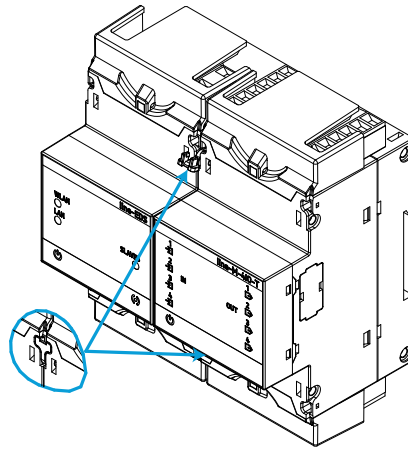

Figure 10: Installation step 3.
3.- Connect both devices and fasten them by pushing the front clips down (**Figure 10**).